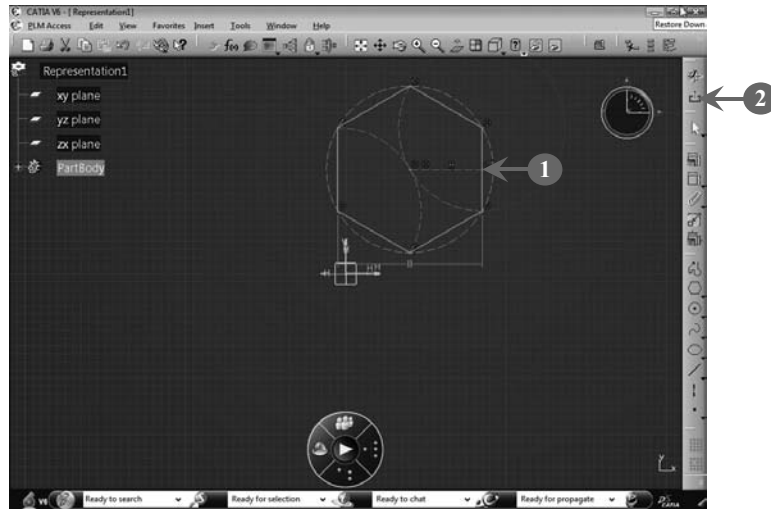

FIGURE 3.40
1. *Create* a sketch in the Sketcher workbench. In our case, we create a hexagon (**Figure 3.40**).
2. *Select* the **Exit workbench** button () from the Sketcher workbench, as shown in Figure 3.40: